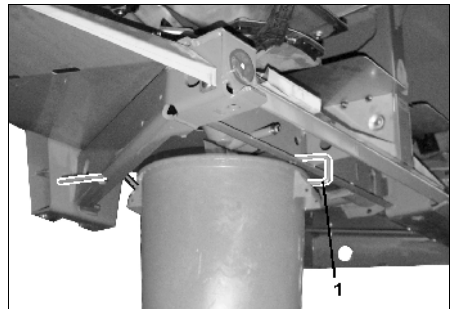

Fig. 33
- Hang the calibration bucket with its handle (Fig. 33/1) into the rear retainer and the front on the frame.